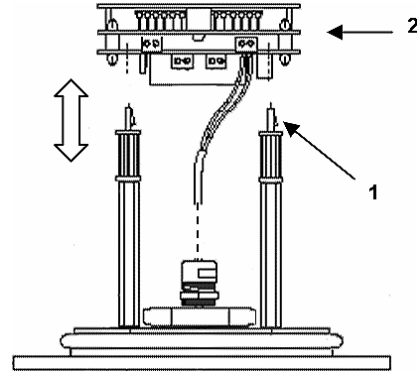

Figure 19
Step 4) Align the register standoffs (4) standoffs with the holes (5) in the analog output board. Push the analog output board onto the standoffs until fully seated.
Step 5) Secure the register assembly onto the register standoffs (Section 5.1, Figure 19) and connect the wiring as needed. (Wiring, page 6). Replace the desiccant pack and the canopy.